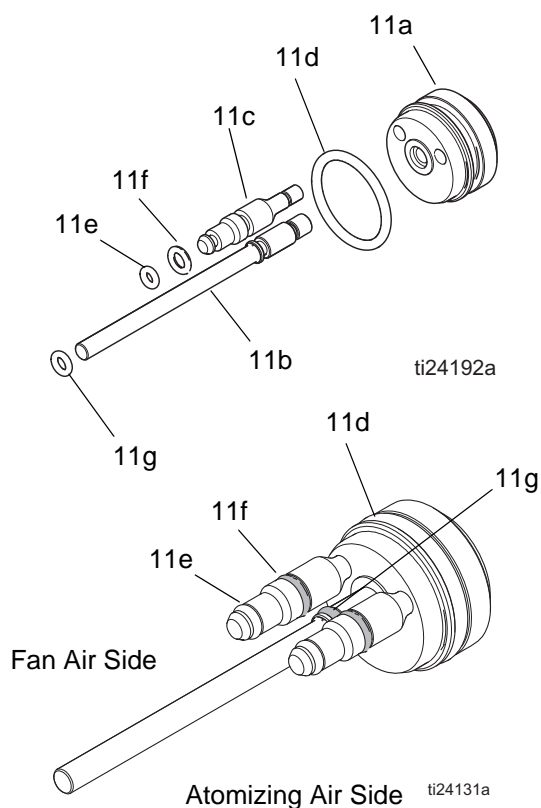
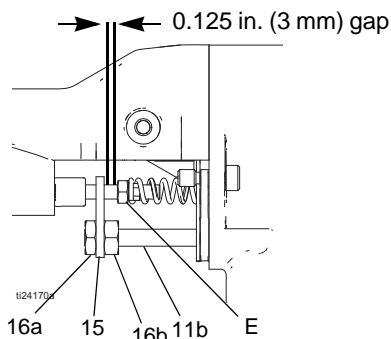

FIG. 33 . Piston O-Rings
FIG. 34 . Actuator Arm Adjustment
2. Remove the air cap, page 39. Remove the gun shroud (26).
3. Remove the jam nut (16a), actuator arm (15), and adjustment nut (16b). See FIGURE 34.
4. Remove piston cap (13) and spring (12) from the rear of the gun.
5. Push on the piston rod (11) to push the piston out the back of the gun.
6. Inspect the o-rings (11d, 11e, 11f, 11g) for damage. See Table 3 and FIGURE 33.
8. Align the two stems (11c) with the holes in the gun body and press the piston assembly into the back of the gun until it bottoms. Install piston cap (13) and spring (12).
See FIGURE 34.
2. Remove the adjustment nuts (16a, 16b) and actuator arm (15). See FIGURE 34.